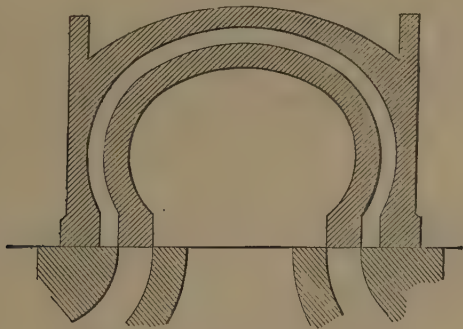

Fig. 139. Allen or Trick Valve.
A. By providing supplementary ports and passages, as shown in what is known as the Allen or Trick valve, seen in Fig. 139. There is a step or shoulder on the valve-face, and a passage through the valve itself in such fashion that as the outside edge of the valve at either end commences to uncover the steam port at that end, the supplementary passage commences to receive steam at the other, and passes it over to be discharged into the same port, beside the stream of steam coming by the outside edge of the valve.